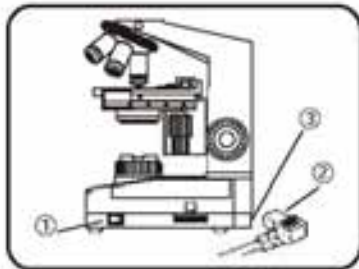

Fig. 13
- To prevent an electric shock, set the main switch ① to (OFF) before plugging the power cord. (Fig. 13)
1. Insert the connector ② of the power cord into the connector ③ securely. (Fig. 13)